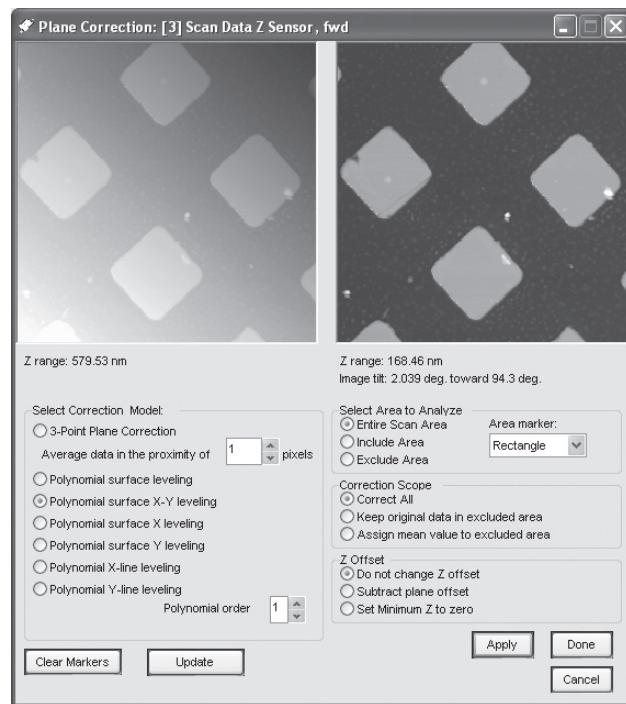

Figure 3.50: Plane Correction Window
- Start clicking the tip Down button, once at a time, and observe the Z(HGT) voltage trace incrementally increase, Figure 3.50.